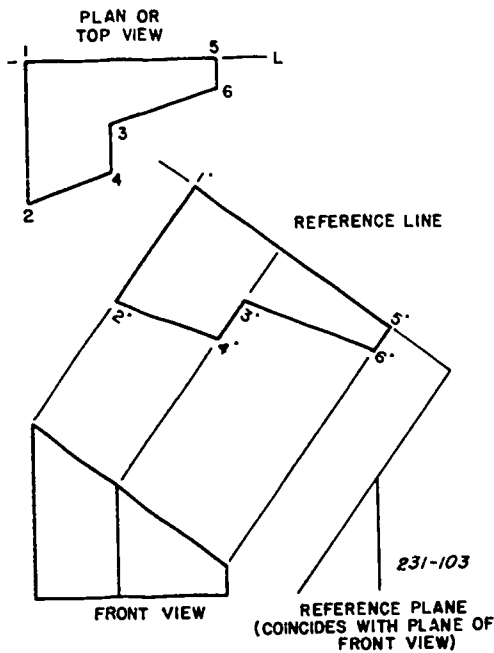

Figure 4-76. Open glass box showing auxiliary plane position.
Figure 4-76 shows the reference plane rotated to coincide with the plane of the front elevation. Notice that the plane is rotated about the reference line—the reference line (edge of plane) remains in the same position as it is in figure 4-75.
**Single or primary auxiliary views.** These views may be subdivided into front auxiliary view, plan or top auxiliary view, and side or end auxiliary view. A single or primary auxiliary view is obtained by projecting from a principal view of the object, in which the inclined surface of the view appears as a line or edge. Figure 4-76 shows the auxiliary view projected from the front view. Since the projection is from the front view, it is a front auxiliary view. The principles of projecting auxiliary views from the plan or top view and the side or end view are the same as from the front view.
**Partial auxiliary views.** Since figure 4-76 shows only the inclined face of the object, it represents a partial auxiliary view. Since partial auxiliary views are the most commonly used, in the next section we'll present the principles of drawing them.
Next, draw light projection lines at right angles from all points on the inclined surface (see fig. 4-76) to the reference line. Then lay off along these projection lines the perpendicular distances from the near edge of the surface as shown in the plan view. In this case, there are three lines, lines 1-2, 3-4, and 5-6, in the plan view, which show as  $1'-2'$ ,  $3'-4'$ , and  $5'-6'$  in the auxiliary view. Notice that lines 1-2, 3-4, and 5-6 are equal in length to lines  $1'-2'$ ,  $3'-4'$ , and  $5'-6'$ , respectively. As you can see, the length of the reference line is the same as the inclined surface of the front view. Furthermore, notice that lines  $2'-4'$  and  $3'-6'$  are not the same length as the corresponding lines in either the plan view or the front view because now they are shown in true length.